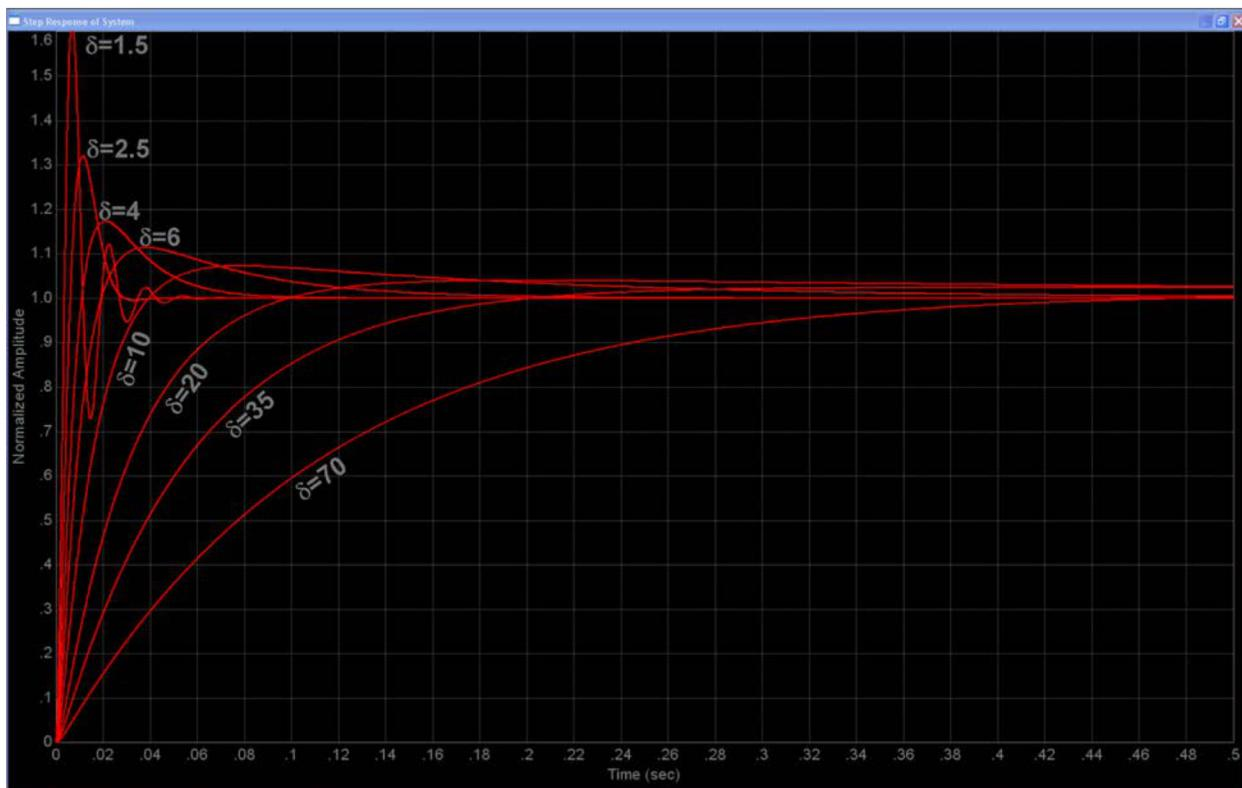

Figure 11-10. Step Response of Speed Controller as a Function of δ
The required frequency separation between the -3 dB cutoff point of the speed closed loop response and the current controller pole is clearly seen along the bottom of the graph for various values of the damping factor. As the damping factor approaches unity, the complex poles in the speed loop approach the required frequency undamped ringing. This is perhaps better visualized in Figure 11-10, which shows the normalized step response of the system for various values of the damping factor. Values below 2 are usually unacceptable due to the large amount of overshoot. At the other end of the scale, values much above 30 usually unacceptable due to the large amount of overshoot. At the other end of the scale, values much above 30 usually don't work either because of the extremely long rise and settling times, as seen in the step response curves. In-between these values is usually your design target window.
- Using the shape of the curves in Figure 11-10, find the lowest value of damping factor that will produce a satisfactory response for your speed loop. We have found that it is OK to pick a damping factor with a little more overshoot than you prefer, since integrator clamping will remove most of it anyway. At this point, the scaling of the frequency and time axes is irrelevant.